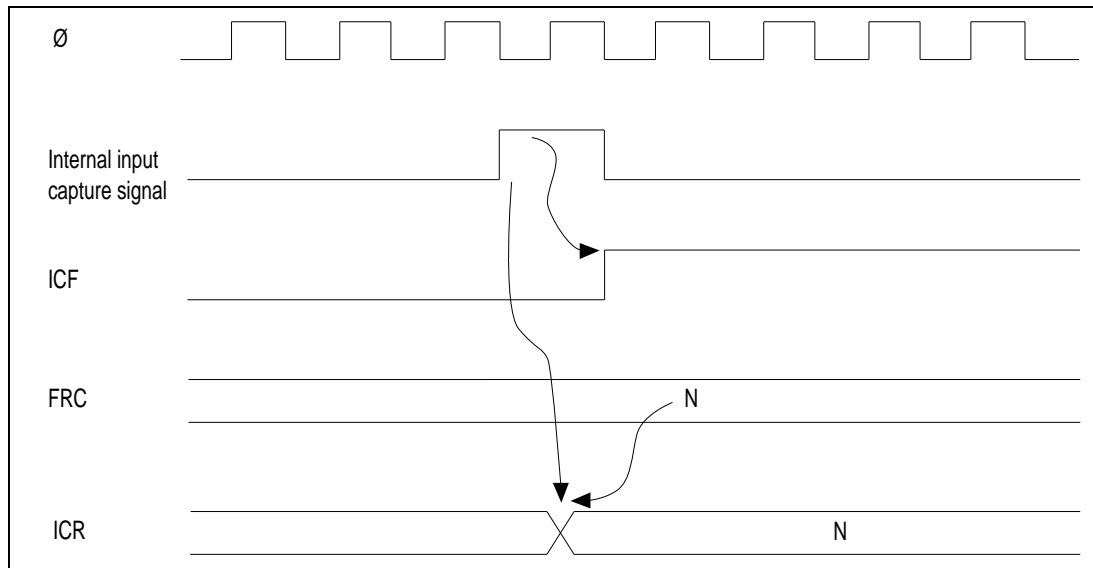

Figure 6-15. Setting of Input Capture Flag
(2) Timing of Input Capture Flag (ICF) Setting: The input capture flag ICF_x (x = A, B, C, D) is set to "1" by the internal input capture signal. Figure 6-15 shows the timing of this operation.